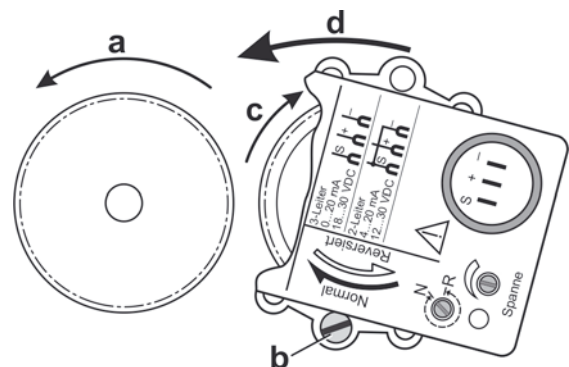

Fig. 5: Fitting of the position transmitter with restoring spring
1. Operate the actuator to the end position from which the position transmitter is moved in a clockwise direction ("normal" direction of rotation (fig. 5, item. a)